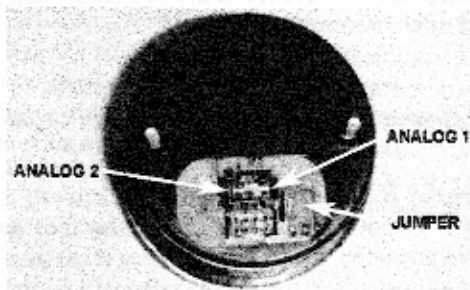

Figure 1
4. **lug both cables into the back of the *Interceptor*.** See figure 1. Press the *Interceptor(s)* into the gauge pod or mounting hardware.
7. **Connect the 0-5v analog inputs (optional).** You will see 3 pins above the main connector on the back of the gauge as shown in figure 1. The 2 outer pins connect to the analog inputs. The center pin is an input only for switched 12v power, it is not to be used as a source for 12v power for external sensors. The right side pin, when looking at the rear of the gauge, goes to analog input 1. The left pin is for analog input 2. See figure 1. Included in the gauge packaging is a 3 wire cable that connects here. The green wire goes to analog input 1, the white to analog input 2. These inputs can be used to read the outputs from pressure senders, A/T ratio analog outputs, 2 or 3 bar MAP sensors, or any voltage up to 5v that you want to monitor and/or record. You can scale these signals with a menu function. **Connecting a signal higher than 6V DC can damage these inputs.**